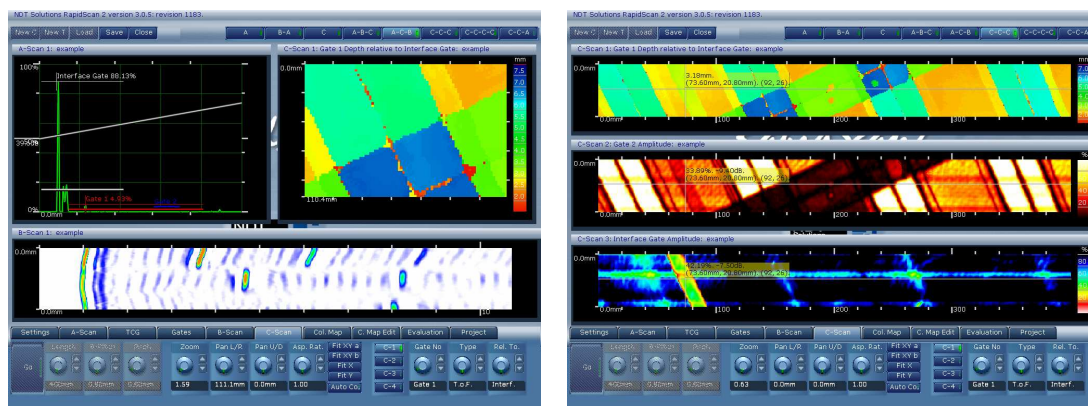

Figure 22: A-C-B View and C-C-C View
- **A-C-B** A medium-sized A-scan, small C-scan and large B-scan view (Figure 22)
- **C-C-C** Three medium-sized views of C-scans (Figure 22)